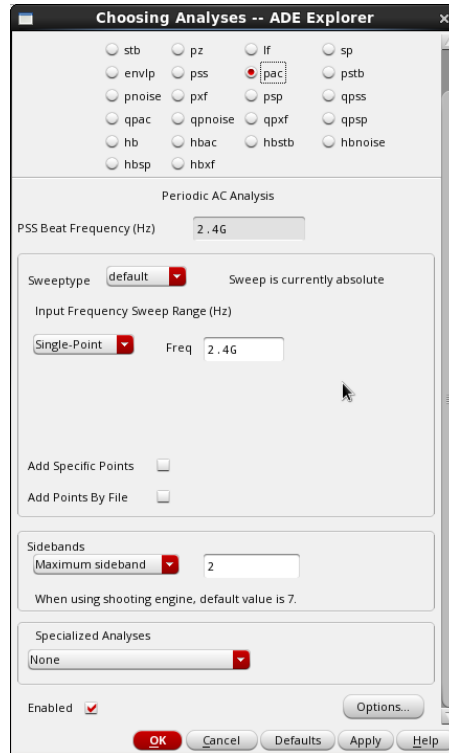

Fig. 11
- Choose PAC analysis and set its parameters as illustrated in Fig. 11.